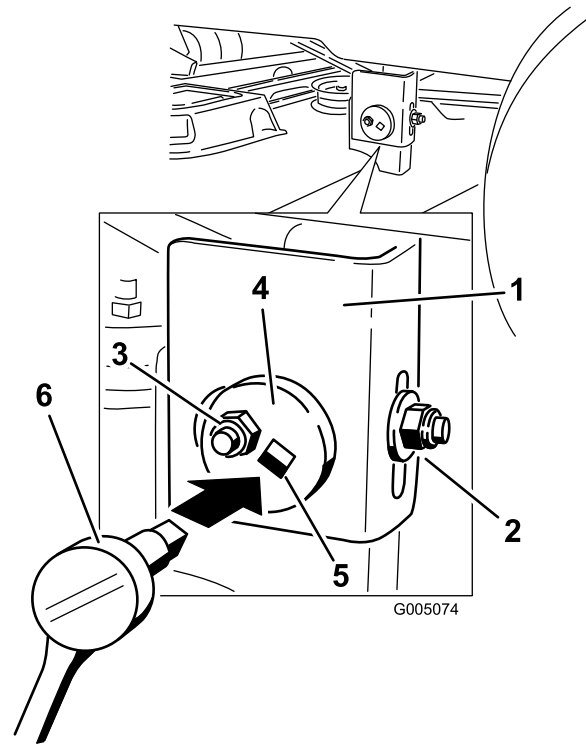

Figure 40
7. Move the left side of the machine. Loosen, but do not remove, the rear locking nut on the hanger bracket (Figure 40).
8. Loosen the side-locking nut on the hanger bracket just enough so that you can adjust the eccentric adjustment plate (Figure 40).
9. Stop the deck at the adjusted position and tighten the side-locking nut on the hanger bracket to hold the new position (Figure 40).